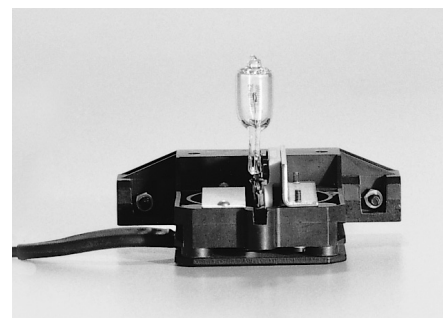

Fig. 95: Halogen bulb 12 V, 100 W for lamp housing 106Z
- Halogen bulb 12 V 100 W (Fig. 95 p. 37) 11500974